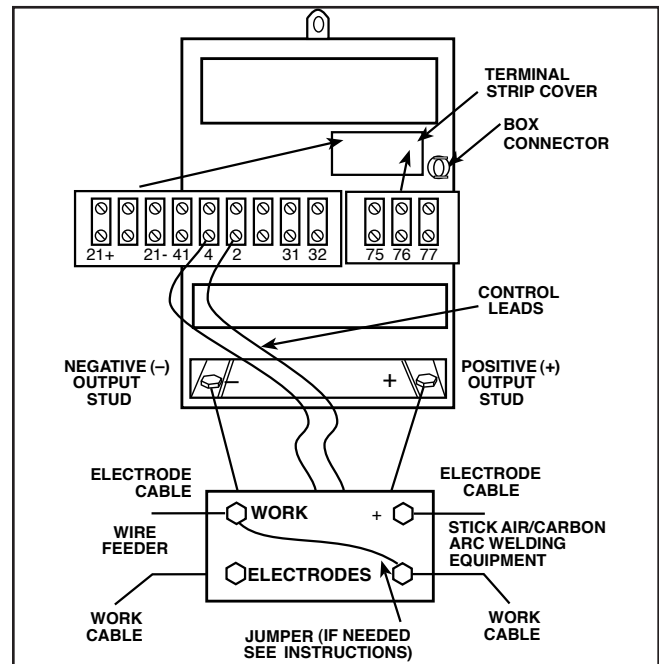

FIGURE C.2 - MULTI-PROCESS SWITCH CABLE CONNECTIONS.
7. Connect the right cable from the MULTI-PROCESS SWITCH (facing the front of the machine) to the IDEALARC® DC-600 VRD positive (+) output terminal. See Figure C.2.
8. Connect the left cable from the MULTI-PROCESS SWITCH (facing the front of the machine) to the IDEALARC® DC-600 VRD negative (-) output terminal. See Figure C.2.
9. Connect the wire feeder electrode and work cables. See Figure C.2.
12. Connect stick or air/carbon arc electrode and work cable. See Figure C.2.
NOTE: When it is not necessary to have separate ground cables for stick and semi-automatic or automatic welding, connect a jumper from the MULTI-PROCESS SWITCH "Work" terminal to the MULTI-PROCESS SWITCH "negative" terminal. See Figure C.2.